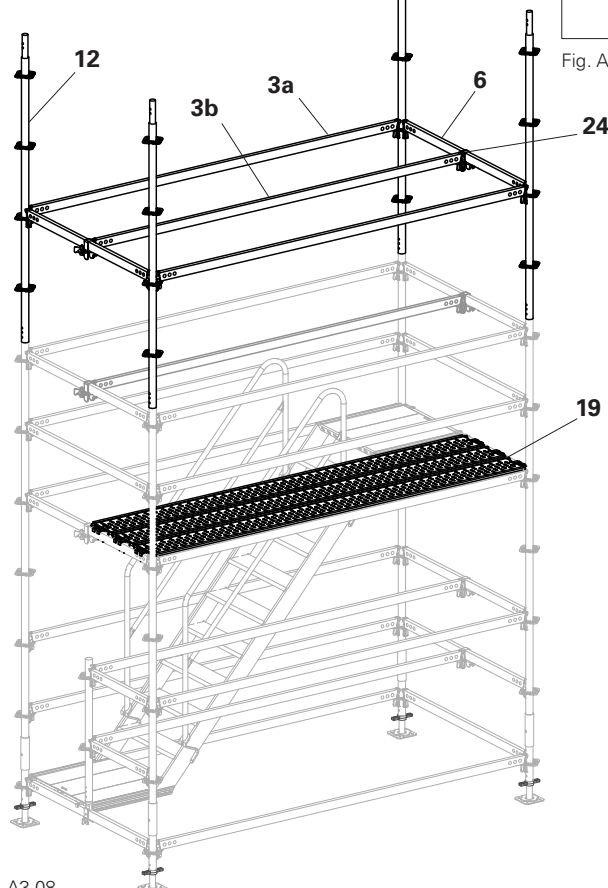

Fig. A3.08
4. Attach the internal Horizontal Ledger UH-2 300 (**3b**), connected to the Horizontal Ledgers UH-2 150 (**6**) with Ledger Brackets UHA Half (**24**). (Fig. A3.08)